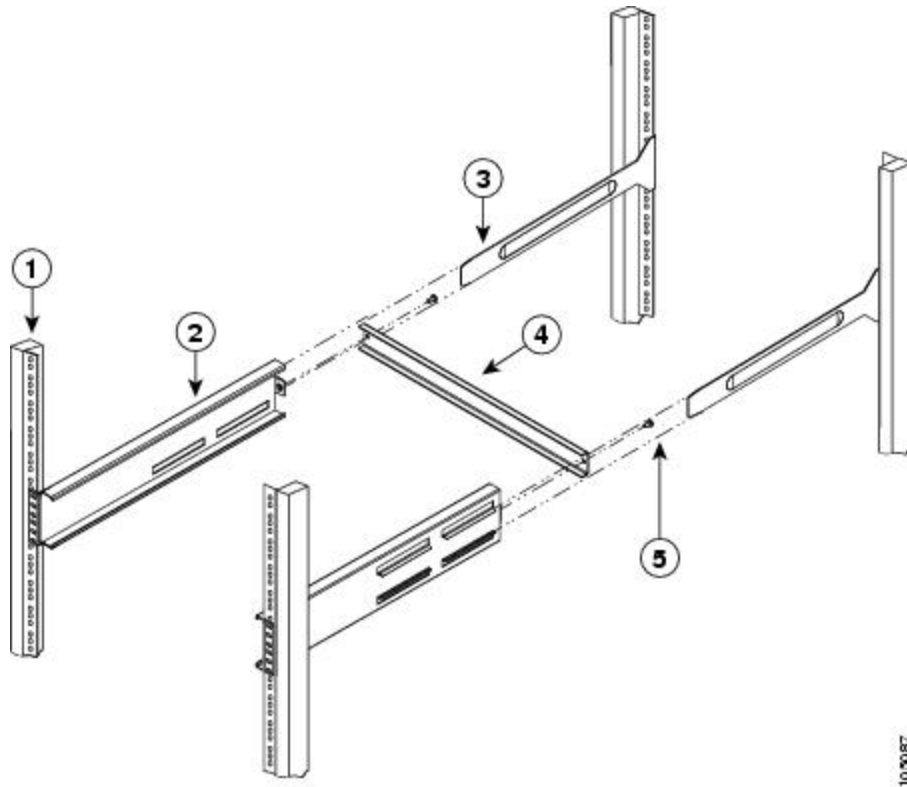

Figure 7. Installing the Shelf Bracket Kit into an EIA Rack
1. Position a shelf bracket inside the rack-mounting posts, as shown in Figure 7. Align the screw holes at the front of the shelf bracket with the holes in the front rack-mounting post. Then, attach the shelf bracket to the front rack-mounting post using a minimum of four 12-24 or 10-24 screws.
4. Attach the crossbar to the shelf brackets, as shown in Figure 7, using the 10-32 screws.
5. Insert the slider posts into the shelf brackets, as shown in Figure 7. Attach them to the rear rack-mounting posts, using a minimum of four 12-24 or 10-24 screws.